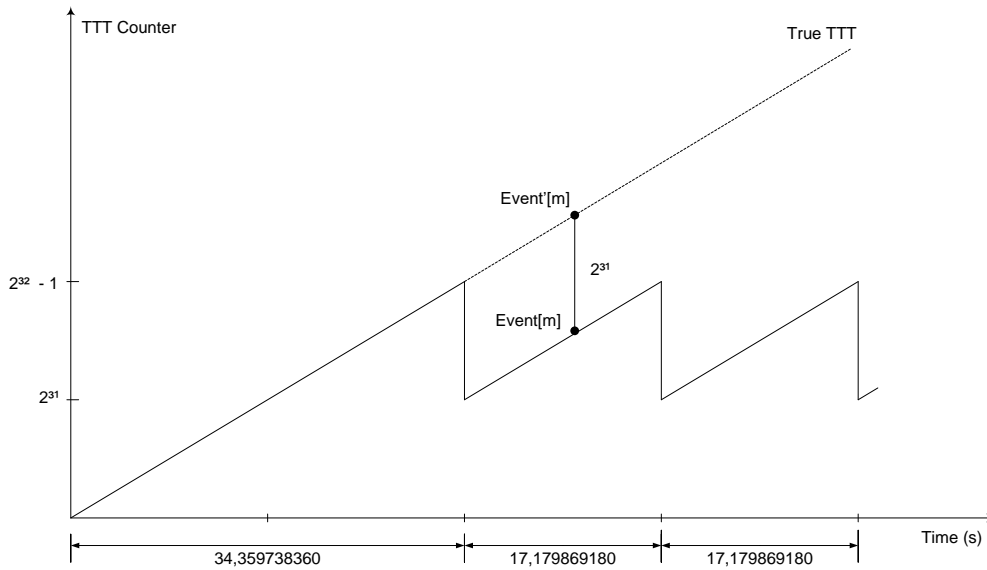
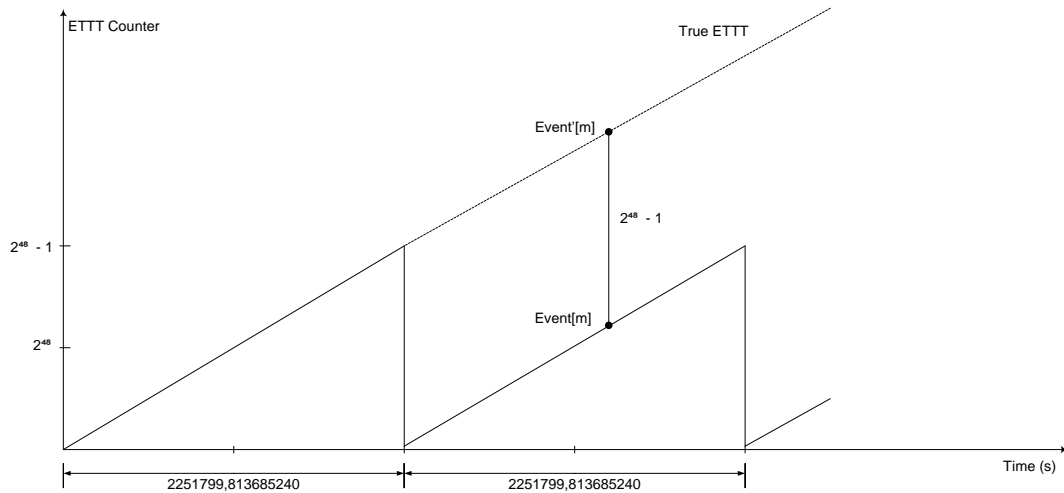

Fig. 9.9: TTT description in case of N6730
Fig. 9.10: ETTT description in case of N6730
- TRIGGER TIME TAG** (bit[31:0] of 4th header word) is the Trigger Time Tag information (TTT), that is the trigger time reference. The TTT is given by the value of the 31-bit counter, while the 32nd bit is asserted when the first roll-over event occurs (**Fig. 9.9**). If the ETTT option is enabled, then this field becomes the 32 less significant bits of the extended 48-bit trigger time tag information in addition to the 16 bits (MSB) of the TRG OPTIONS field (2nd event word). Note that, in the ETTT case, the roll-over bit is no more provided (**Fig. 9.10**). The trigger time tag is reset either after each start of acquisition or via front panel signal on GPI connector, and increments at 125MHz frequency for N6730, while at 62.5MHz frequency for N6725, which is every 4 ADC clock cycles. The trigger time tag value is read at half this frequency (62.5 MHz for N6730 and 31.25 MHz for N6725), so the trigger time tag specifications result in 16 ns resolution and 17 s range (i.e. $8 \text{ ns} \cdot (2^{31}-1)$) for N6730, which can be extended to 625 h (i.e. $8 \text{ ns} \cdot (2^{48}-1)$) by the Extended Trigger Time Tag option, while 32 ns resolution and 34 s range (i.e. $16 \text{ ns} \cdot (2^{31}-1)$) for N6725, which can be extended to 1250 h (i.e. $16 \text{ ns} \cdot (2^{48}-1)$) by the Extended Trigger Time Tag option.